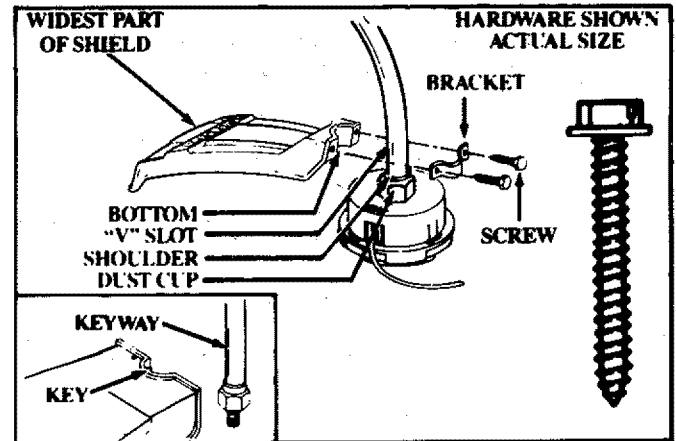

Figure 8
4. Shield – Figure 8
Failure to install the shield in the position shown in Figures 8 and 9 can result in serious injury to the operator. The length of the shield must be aligned with the length of the drive shaft housing. Direct the widest part of the shield toward the engine.
- Match the Key (Raised area) on the Shield with the Keyway ("V" slot) on the Drive Shaft Housing. Figure 8 (inset).
- Install the Shield retaining Bracket and Screws as shown in Figure 8.